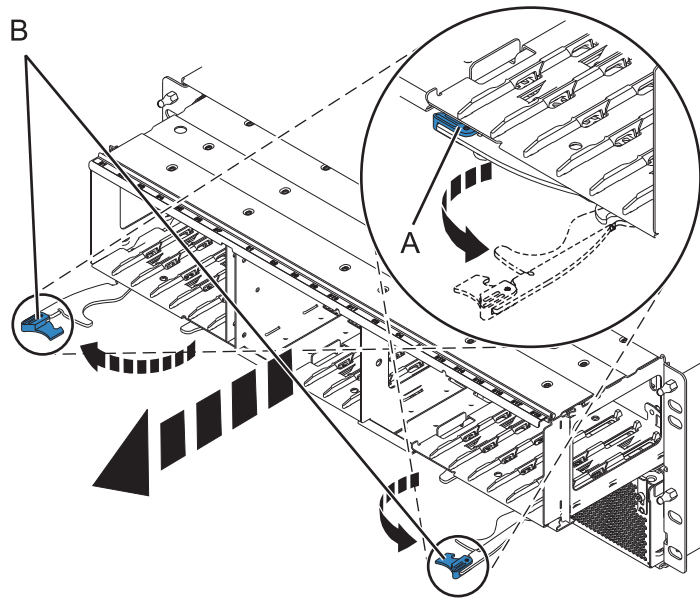
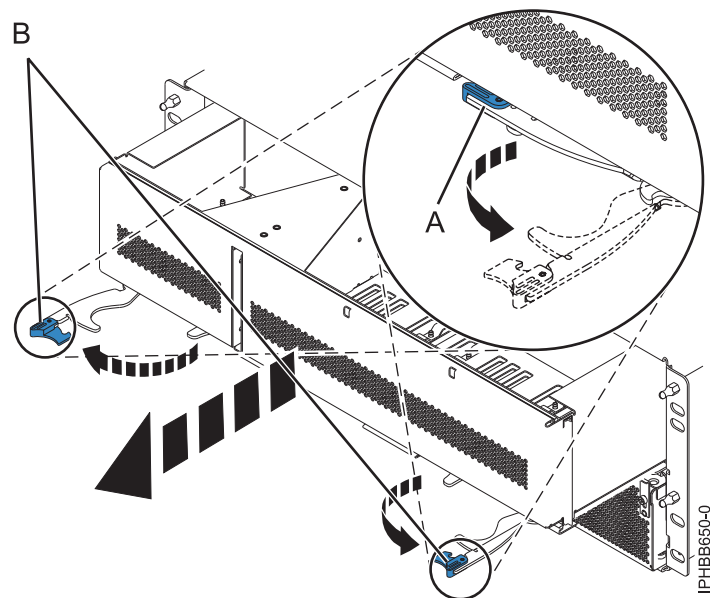

Figure 37. Removing the backplane from the enclosure
Figure 38. Removing the backplane filler from the enclosure
8. Remove the backplane from the 5802 expansion unit as shown in Figure 37 on page 36 or the backplane filler from the 5877 expansion unit as shown in Figure 38 on page 36.